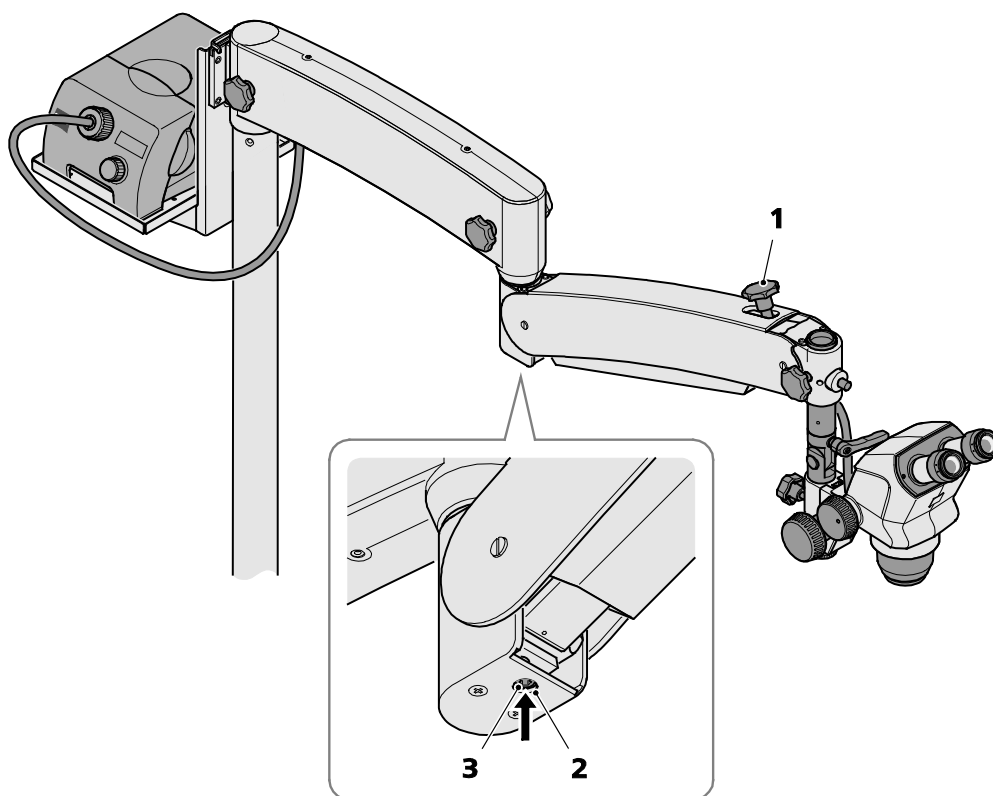

Fig. 6 Adjusting weight balancing on the articulated suspension arm
- Position the fiberoptic light source on the console for cold light sources as shown in Fig. 6.
- Loosen the brake screw (Fig. 6/1) of the articulated suspension arm.
- Insert an 8 mm Allen key into the opening of the joint cover (Fig. 6/2).
- Use the Allen key to turn the setting screw for weight balancing (Fig. 6/3) until the equipment is balanced.